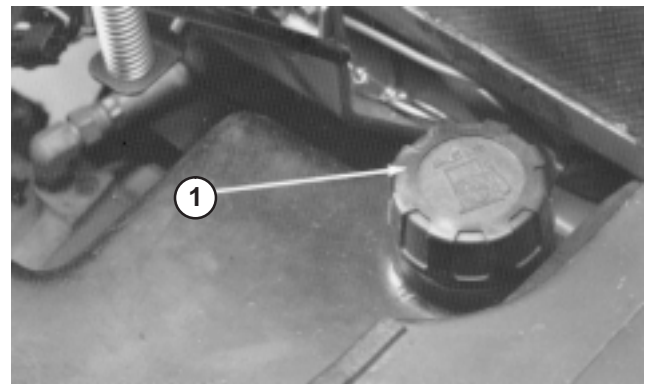

Figure 14
1. Tip seat forward and prop it with the support rod so it cannot fall accidentally (Fig.14). Using a clean rag, clean area around fuel tank cap.